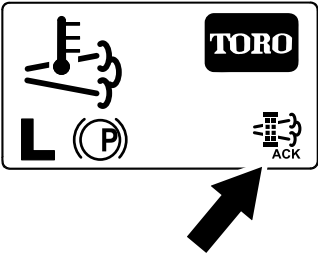

Figure 55
- The InfoCenter displays the home screen and the regeneration acknowledge icon (Figure 55) appears in the lower right corner of the screen as the regeneration processes.